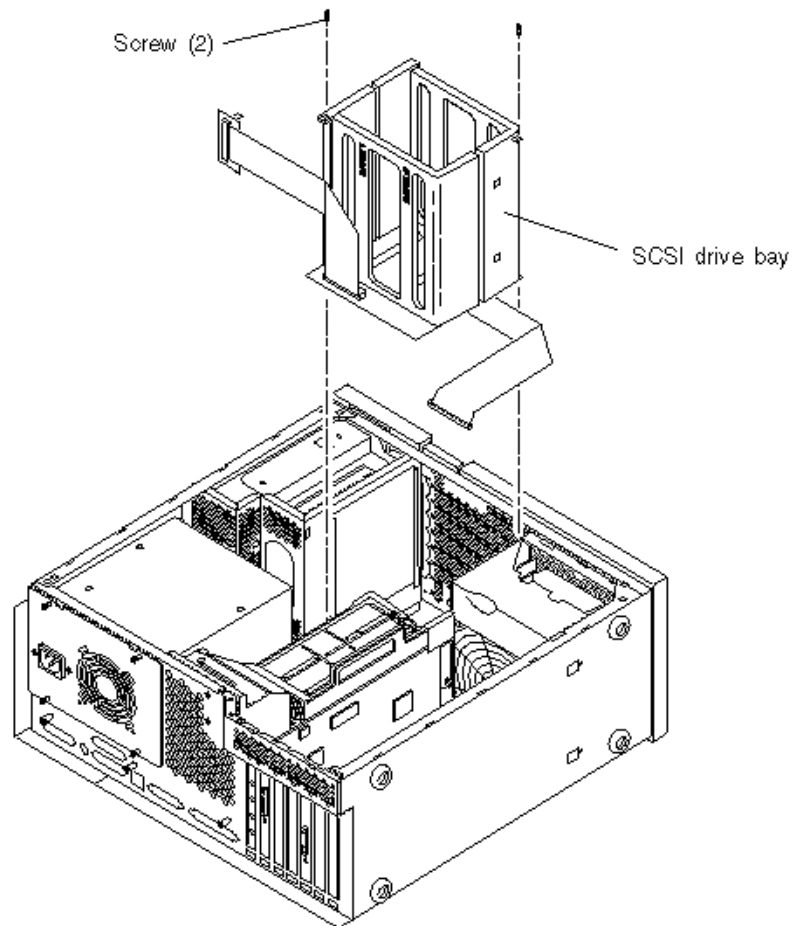

Figure 8-4 Removing and Replacing the SCSI Drive Bay
4. Remove the SCSI drive bay as follows (Figure 8-4):
1. **Replace the SCSI drive bay as follows (Figure 8-4):**